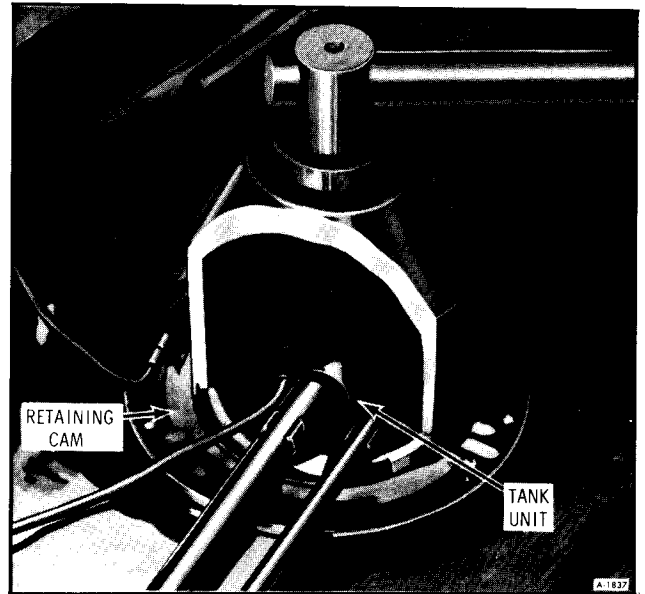

Figure 7—Removing Fuel Tank Gauge Unit
5. Using Tool J-24187 as illustrated in Figure 7. Remove fuel tank gauge unit.
2. Remove fuel gauge retaining cam, using Tool J-24187 (figure 7).